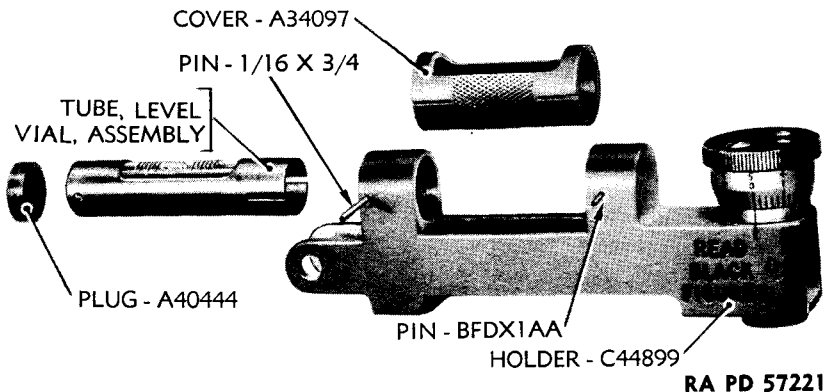
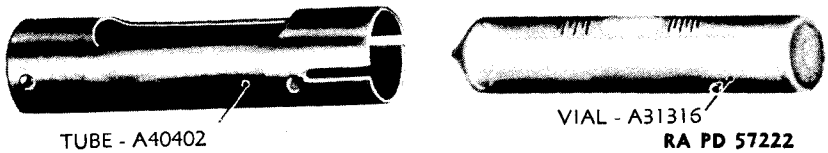

Figure 9—Gunner's Quadrant M1—Vial Tube Removed from Holder
Figure 10—Gunner's Quadrant M1—Level Vial Removed from Tube
(4) REMOVE LEVEL VIAL (fig. 9).
(e) Extreme care must be exercised in removing the level vial from the tube. The gypsum must be dug out very slowly and carefully. Avoid breaking the level vial tip off. Never cross the center of the gypsum; always dig around the edge nearest the tube. Use shim stock to dig out the remaining gypsum between the level vial and the tube. After all of the gypsum has been removed, push the level vial out of the tube (fig. 10).
(1) Thread micrometer screw nut in position on level holder until the nut is tight and the pin holes are lined up.
(2) From the top of the level holder, drive pin BFDX1BE in position in lined up holes until $\frac{1}{16}$ inch extends from top of micrometer screw nut.
(3) Place micrometer stop ring with lips upward on micrometer screw nut, and lock in position with split ring.
(4) Apply one or two drops of OIL, lubricating, for aircraft instruments and machine guns, to the micrometer screw, and thread micrometer screw through micrometer screw nut until the black auxiliary index marks of the arm and holder are in line.
(5) Facing the black graduation side of the instrument, turn the stop ring so that the solid part of the ring is toward the black index and its lip hits the pin BFDX1BE.
(6) Select the hole on micrometer screw nearest the level vial, and turn micrometer screw (not more than one-eighth turn) until this hole and the hole directly opposite it are in a straight line with the level vial.
(7) Place micrometer A40398 and knob A40396 in position over micrometer screw A40400 so that pin A40397 in knob enters the hole nearest the level vial.
(8) Secure micrometer and knob in position with two screws. **NOTE:** Final adjustment of micrometer will be made after the gunner's quadrant is completely assembled.
d. **Install Level Vial** (fig. 9 and fig. 10).
(1) Thoroughly clean out level vial tube.
(2) Place level vial tube on flat leveled surface.
(3) Push level vial into position in level vial tube and shim with paper of desired thickness to secure level vial in leveled position.
(4) Set level vial in level vial tube with GYPSUM, calcined, Grade I, fine, mixed with water to form paste, and allow gypsum to dry.
(5) Hold level vial cover in position over level holder with the small projection on the inside of the cover toward the micrometer.